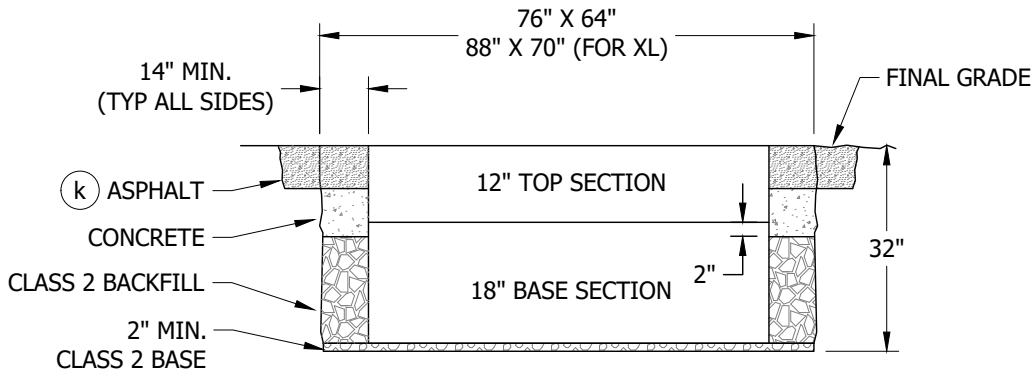

FIGURE 6
- B. AFTER THE LOCATION IS ESTABLISHED, MARK OUT DIMENSIONS FOR THE EXCAVATION WIDTH, LENGTH AND DEPTH PER FIGURES 6 & 7. THE WIDTH AND LENGTH DIMENSIONS GIVEN ALLOW EXTRA SPACE FOR SETTING THE SUBSTRUCTURE AND TAMPING THE BACKFILL.
- (F) IF RIGHT OF WAY OR OBSTRUCTIONS CAUSE A PROBLEM, THE HANDHOLE MAY BE TURNED TO WHERE THE LONG SIDE OF THE HANDHOLE PARALLELS THE SIDEWALK OR PROPERTY LINE. IF THE HANDHOLE HOUSES A CABLE TAP, THE HANDHOLE IS NOT TO BE TURNED AND THE TYPICAL PLAN VIEW OUTLINED IN THE STANDARD MUST BE FOLLOWED (CABLE TAP IS MOUNTED ON THE END OF HANDHOLE AND THE FIVE-FOOT CLEARANCE FOR HOT STICK OPERATION WOULD BE ON THE SIDEWALK SIDE).